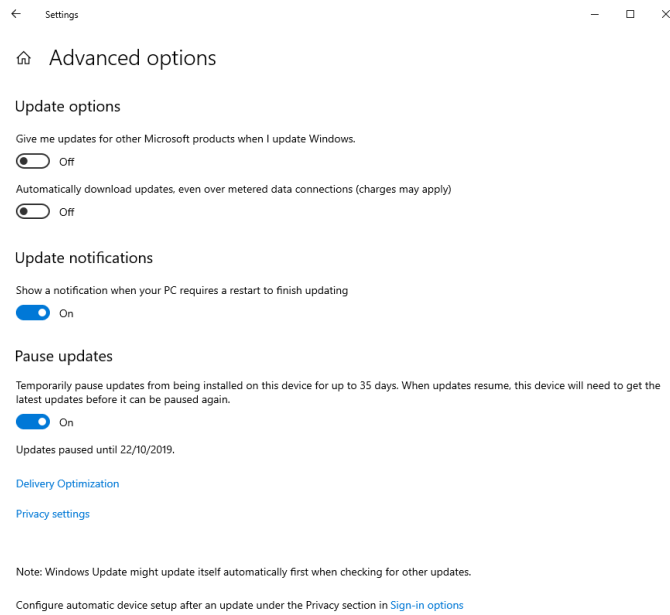

Figure 2-4. Pause Windows updates
2. Navigate to **Update & Security** > **Advanced Options**. Enable **Pause Updates** before starting measurements over night or longer unattended time periods, see Figure 2-4.